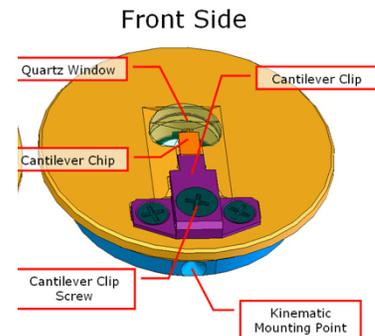

Figure 1. Tip holder
- 14) Remove the tip holder (Figure 1) from the scanner and place the tip holder in its cantilever changing station, Figure 2